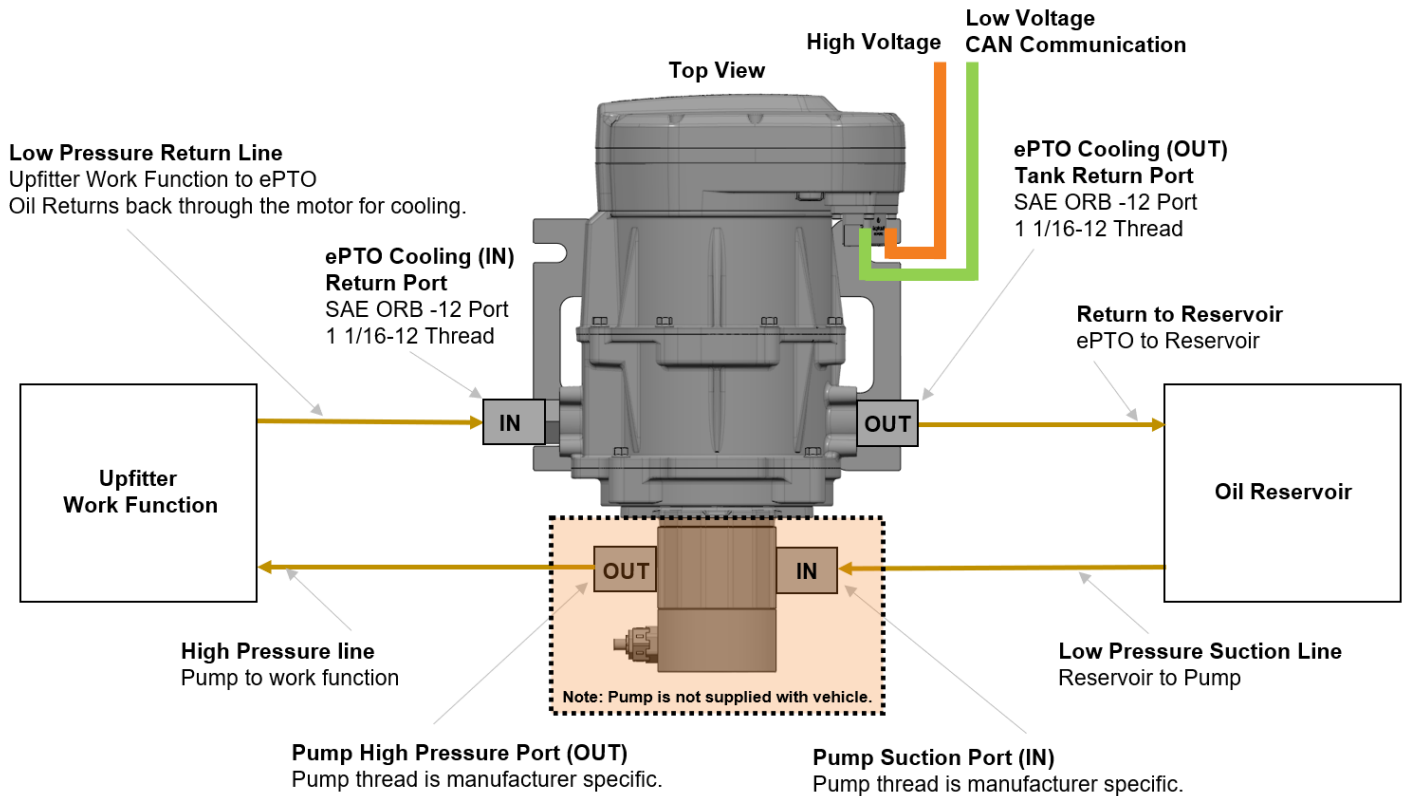

Fig. 1
**Caution:** The Terzo unit is required to be plumbed to cool the internals and electronics of the unit, else ePTO failure will result, see Figure 1.